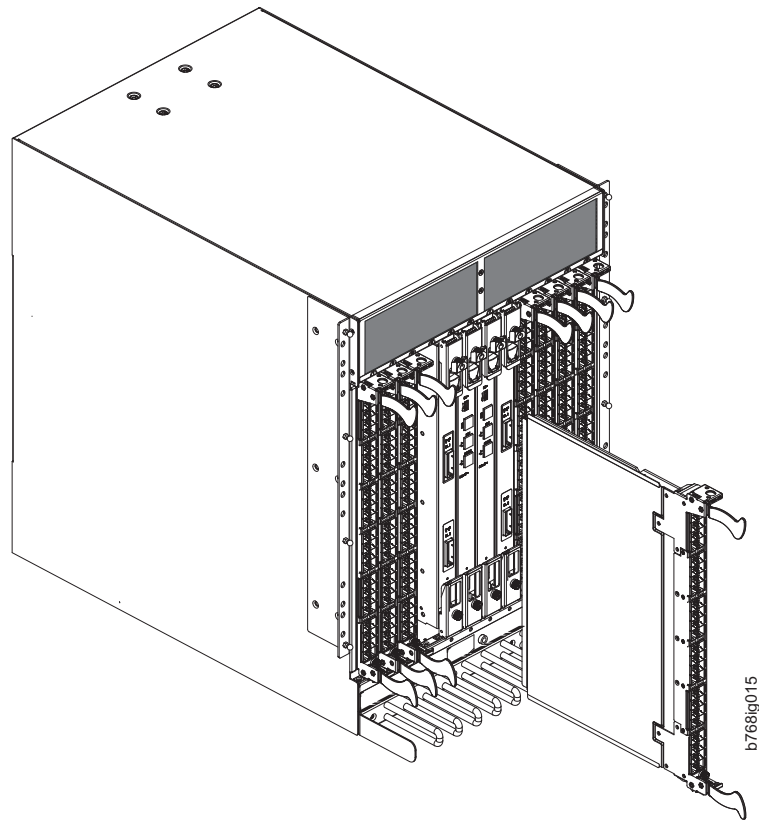
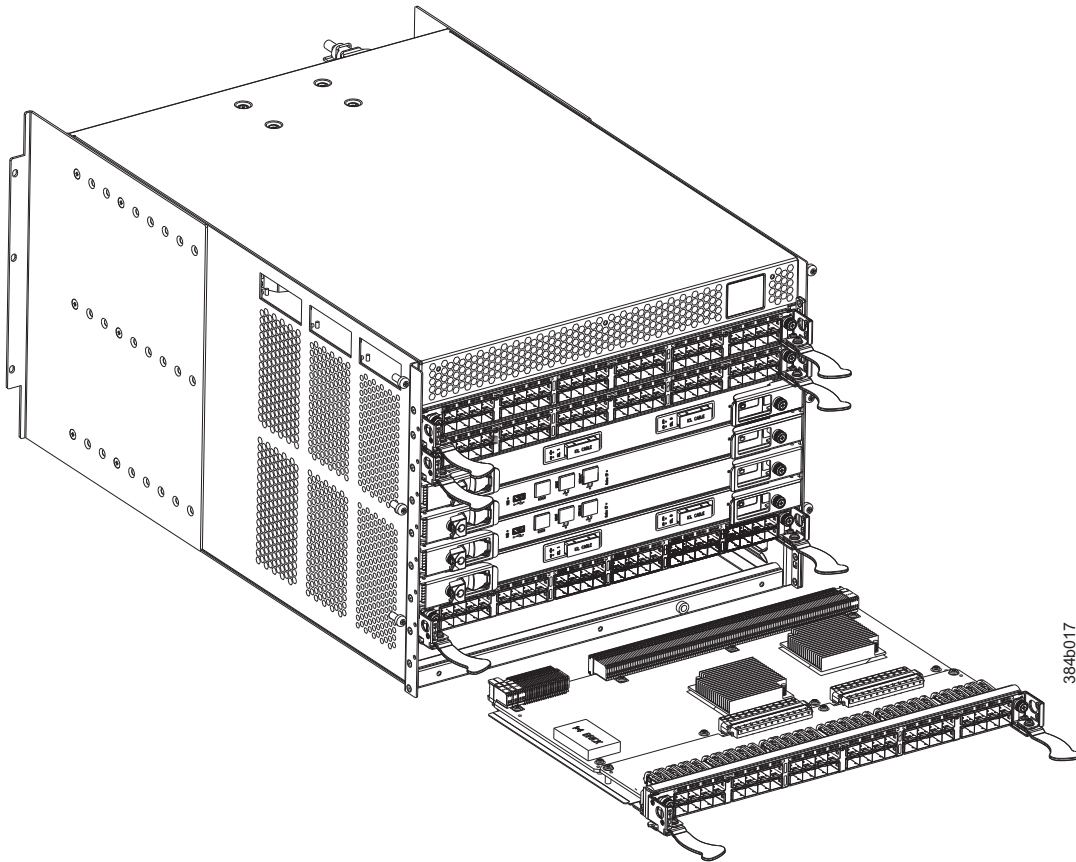

Figure 6. Removing a blade from a 2499-816 chassis (FC8-48 port blade shown)
Figure 7. Removing a blade from a 2499-416 chassis (FC8-48 port blade shown)
Complete the following steps to remove a blade from the chassis. For this procedure, refer to Figure 6 and Figure 7 on page 20.
- For the FC8-16, FC8-32, FC8-48 port blades and the FCOE10-24 application blade: Open the ejectors by rotating them toward the center of the blade face. Pull the blade out of the chassis using the ejectors (Figure 6 on page 19 or Figure 7 on page 20)